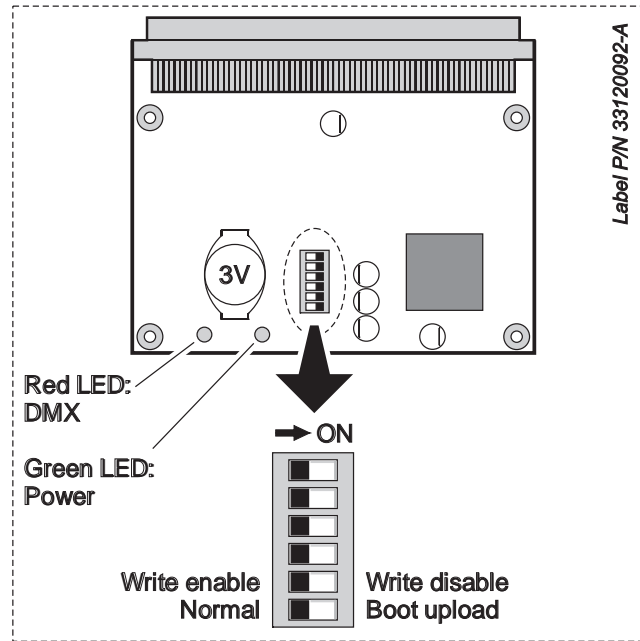

Figure 21: Main PCB and DIP-switch
3. See Figure 21. Locate the 6-pin DIP-switch on the PCB and move pin 6 to **ON** (boot mode upload enable).
The 3 volt battery on the main PCB (marked **3V** in Figure 21) will eventually need to be replaced. When the battery has reached the end of its life it will no longer power the onboard clock, and *RCER* (real-time clock error) will appear in the display. Contact Martin service for a replacement battery.